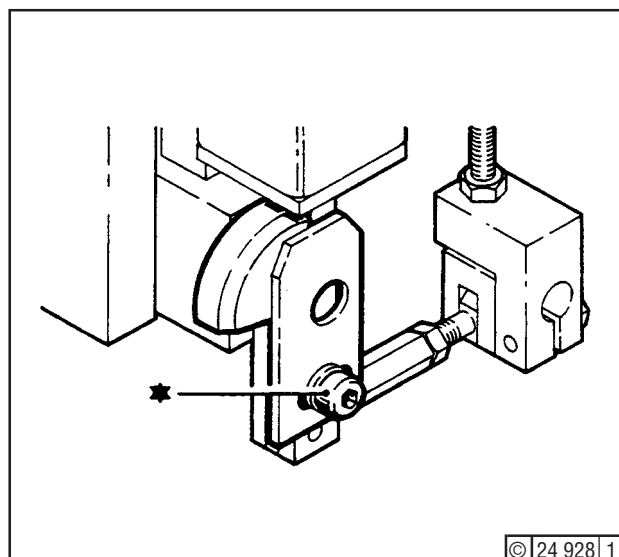

Fig. 6
4. Release screw (*) - Fig. 6 - to remove lever on starting fuel allowance stop, point A17.